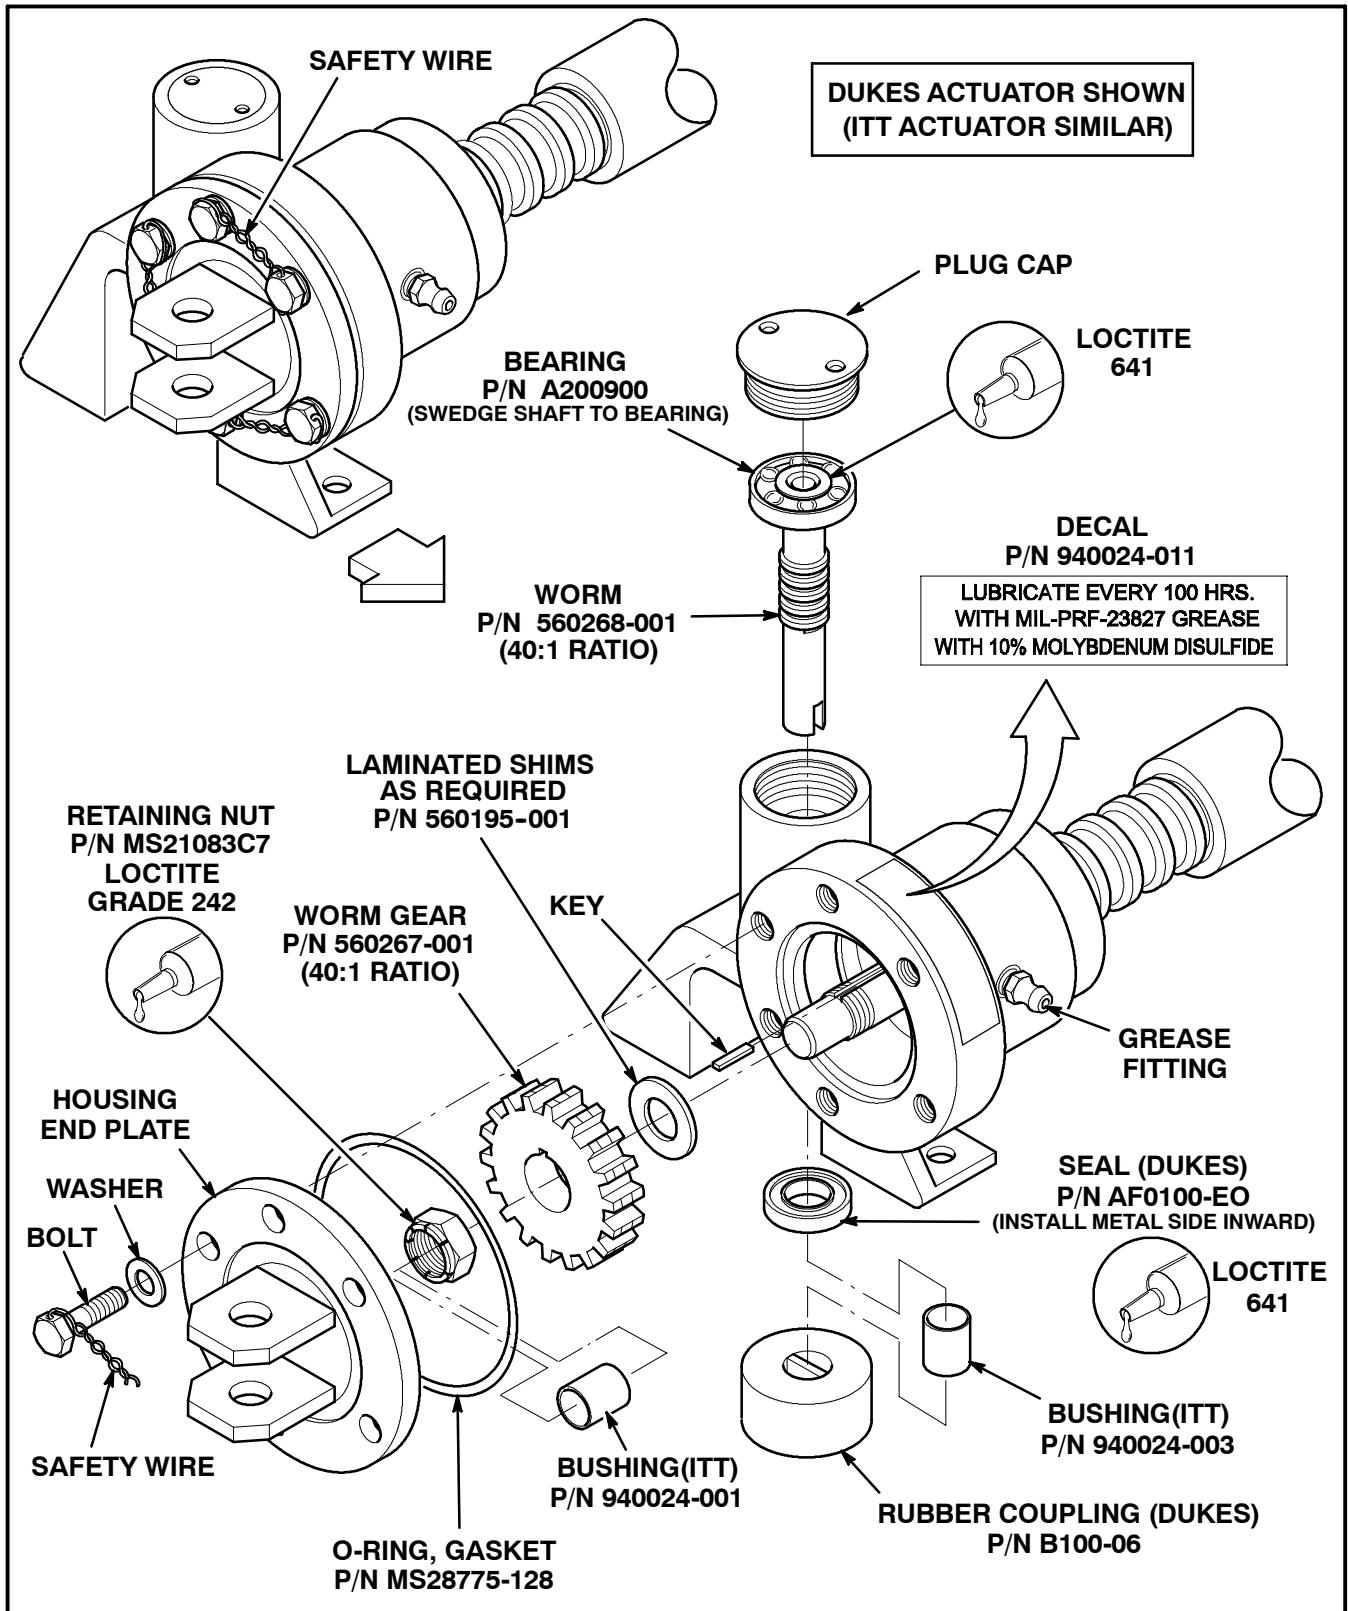

FIGURE 2 - DUKES ACTUATOR EXPLODED VIEW (4196-00-1C - SHOWN)
11. Install new bushing 940024-003 into housing (ITT) or apply Loctite™ 641 to new lower seal AF0100-EO (Dukes) and install into housing assembly, metal side inward until flush with housing (See Figure 2).